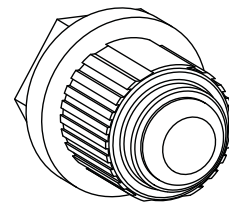

Fig. 25-1
- 3. Press and hold the electronic igniter button (see Fig. 25-1). The igniter will begin to spark with a rapid clicking sound.